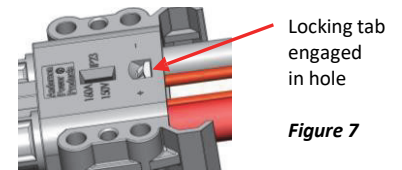

Figure 7
- Push from the back of the holder until the holder locking tab snaps into the rectangular opening (Figure 7)